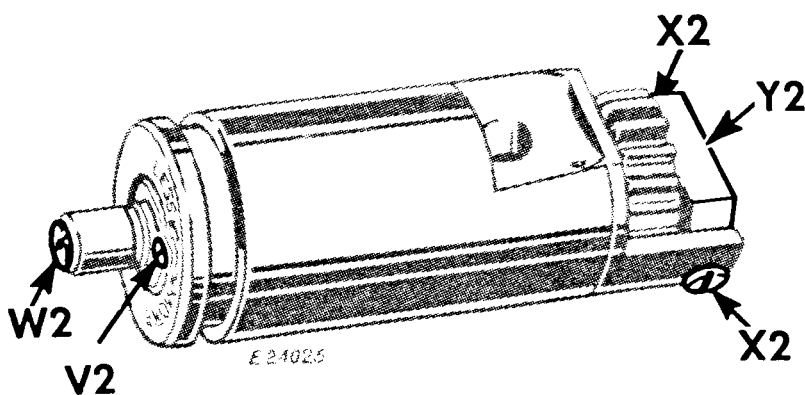
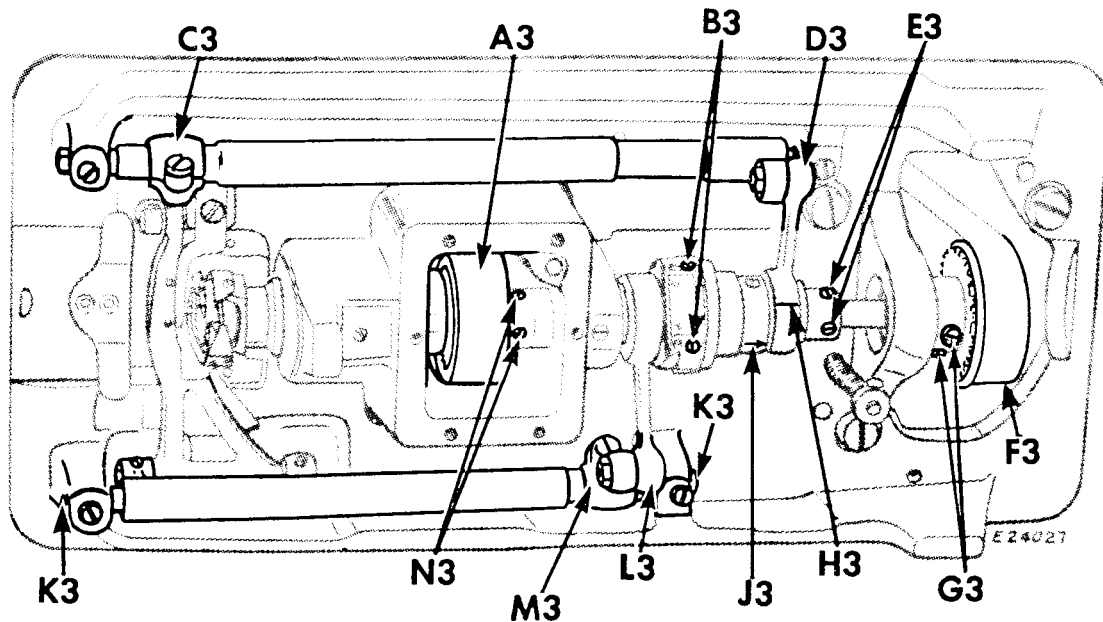

Fig. 34. Adjustment of Oil Flow Regulator in Hook Shaft Bushing
Fig. 36. Underside of Machine
Remove the sewing hook as instructed on **page 23**. Loosen the pinch screw in the feed lifting rock shaft crank **C3**, **Fig. 36** and drop the feed bar **R2**, **Fig. 33** down out of the way. Loosen the bushing set screw **O2**, **Fig. 32** and withdraw the bushing and hook shaft assembly as shown in **Fig. 34**. Take out the two screws **X2**, **Fig. 34** and remove the end bearing **Y2**, **Fig. 34**, then withdraw the shaft and gear.
When assembling the hook shaft bushing, see that the thrust washer on the hook shaft has the raised surface toward the gear. The end bearing **Y2**, **Fig. 34** can be moved endwise enough to control the end play of the hook shaft before tightening the two screws **X2**, **Fig. 34**. When replacing this unit in the machine, be sure that the set screw enters the spline in the bottom of the bushing. See **page 27** when resetting the feed lifting rock shaft.
The hook shaft bushing contains a regulating screw **V2**, **Fig. 34** for controlling the oil supplied to the sewing hook raceway. Turning in screw **V2** increases amount of oil supplied to the hook, as indicated by the arrow and word "more" on end of bushing; backing this screw out decreases amount supplied, as indicated by the arrow and word "less." Normal adjustment is accomplished by turning this screw in all the way, then backing it out again about 2-1/2 turns. Less than 2-1/2 turns may be required if continuous runs are being made or material with considerable sizing is being stitched.
The oil wick complete No. 270176, **W2**, Fig. 34 carried by the hook shaft, at the sewing hook end, should be replaced occasionally as it may become clogged by lint and dirt from the oil.
If an excess of oil is being delivered to the hook and cannot be controlled by the metering screw **V2**, Fig. 34, check to be sure that the oil wick has not become detached from the filter screw **W2**, Fig. 34 and that the filter screw is securely tightened. Inspect all oil passages in the shaft and bushing to see that they have not become clogged with lint or dirt. If oil wick is too loose, too much oil will flow to the hook raceway.
Slip the belt off the lower pulley **F3**, **Fig. 36**, then loosen the two set screws **G3**, **Fig. 36** and remove the pulley from the shaft. Loosen the four set screws **B3** and **E3**, **Fig. 36** in the feed and feed lifting eccentrics, and the two set screws at **N3**, **Fig. 36** in the internal gear. Do not loosen the screw in the collar **J3**, **Fig. 36**. Withdraw the shaft with ball bearing from the pulley end.
Tighten the screws **B3**, **Fig. 36**, having the first screw (as the shaft is turned away from you) enter the groove in the shaft. Then move the feed lifting eccentric to the left as far as it will go and tighten the screws **E3**, with the first or upper set screw in the groove in the shaft. Replace pulley **F3** and belt. Then retime the shaft as instructed on **page 16**.
If it is found necessary to replace the ball bearing on the hook driving shaft, or to reset or replace the hook driving shaft bushing, note that the ball bearing is correctly positioned when the pulley **F3**, **Fig. 36** is flush with the ball bearing on one side and its hub is flush with the end of the shaft on the other. With the ball bearing in this position, place the shaft in the machine and assemble
the internal gear **A3**, **Fig. 36** with its inner face flush with the end of the shaft. The hook driving shaft bushing will be correctly positioned when end play has been removed from the shaft by setting the bushing against the hub of the internal gear.
If the feed rock shafts have been disturbed, the small ends of the connections **D3** and **L3**, **Fig. 36** should be disconnected while setting the eccentrics, and enough side play left for the connections so that their free ends can be moved sidewise about 1/32 to 1/16 inch. See paragraph on feed mechanism before assembling the rock shaft connections.
If a faster or slower feed timing than the standard setting is desired see **page 26**, loosen the pulley screws **G3**, **Fig. 36** and turn the shaft as desired, then tighten the screws. The hook must then be retimed as instructed on **page 20**.
The feed dog is lined up with slots in the throat plate by moving the bearing centers at **K3**, **Fig. 36** to right or left. It may be centered lengthwise so it will not strike the ends of the slots when making the longest stitch, by loosening the clamp screw in the feed rock shaft crank **M3**, **Fig. 36**.
After removing the feed driving or feed lifting rock shafts, the cranks **M3** and **C3**, **Fig. 36** should be adjusted to right or left until they line up perfectly with the free ends of the connections when the latter are exactly midway between their two extreme side play positions. The cone bearings **D3** and **L3**, **Fig. 36** should then be adjusted by first turning the cone screws down tight and then backing them off about one-eighth of a turn, locking them in position with the lock nut. This gives a minute amount of play in the connection which is necessary for all clearance.
The feed dog may be raised or lowered by loosening the pinch screw in the feed lifting crank **C3**, **Fig. 36**. The feed dog is usually set so that it shows a full tooth above the throat plate when at its highest position. See that there is no lint packed between the feed dog and the throat plate.
Remove the needle to avoid damaging it while the arm and hook shafts are out of time. Work the belt off the lower pulley **F3**, Fig. 36.
**Q, Fig. 38** on the machine pulley is in line with the mark **P, Fig. 38** on the arm casting, then turn the lower shaft pulley until the timing mark on the collar **J3, Fig. 36** is opposite the timing mark **H3, Fig. 36**, being careful to see that the two set screws **G3, Fig. 36** are accessible. With the two shafts, in this position, lead the belt onto the lower pulley at the point farthest from you and then, while turning the machine pulley over from you, slide the belt over the rest of the width of the lower pulley. Check the timing of the machine before starting to sew; see **page 16**, and if necessary, loosen the set screws in the lower pulley to bring the upper and lower shafts into exact time.